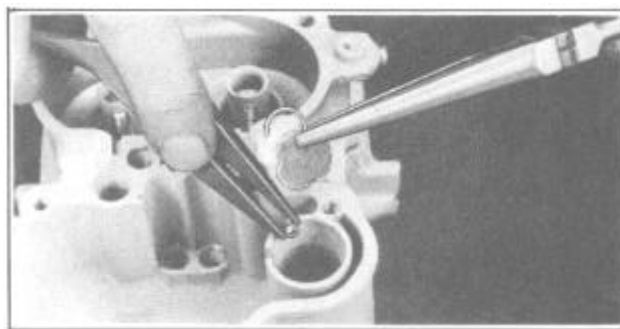

FIGURE 60
9. Remove pump strainer, pump check ball retainer ring and check ball, Figure 60.